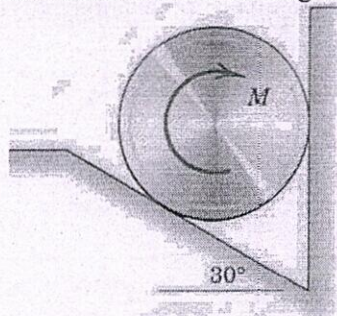

Fig. 4a
- 4a. The 30 kg homogeneous cylinder of 40 cm diameter rests against the vertical and inclined surfaces as shown in Fig. 4a. If the coefficient of static friction between the cylinder and surfaces is 0.3, calculate the applied clockwise couple M which would cause the cylinder to slip.